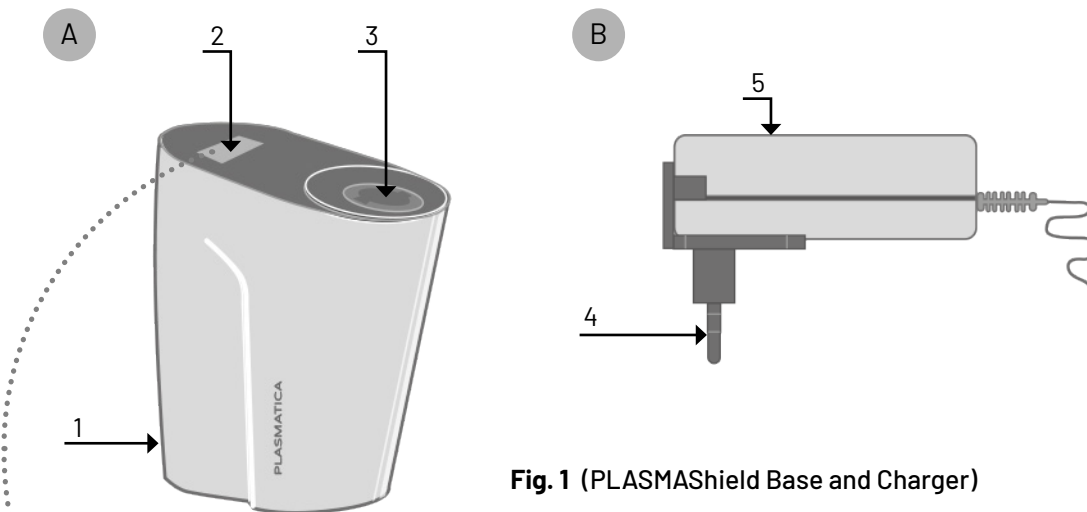

Fig. 1 (PLASMASHield Base and Charger)
1. Open the Disposable sterile pouch in the sterile field. Insert the Disposable fully into the Disposable Inlet (see Fig. 1, A-3) in the Base until it clicks into position, and the Display Screen shows "READY".